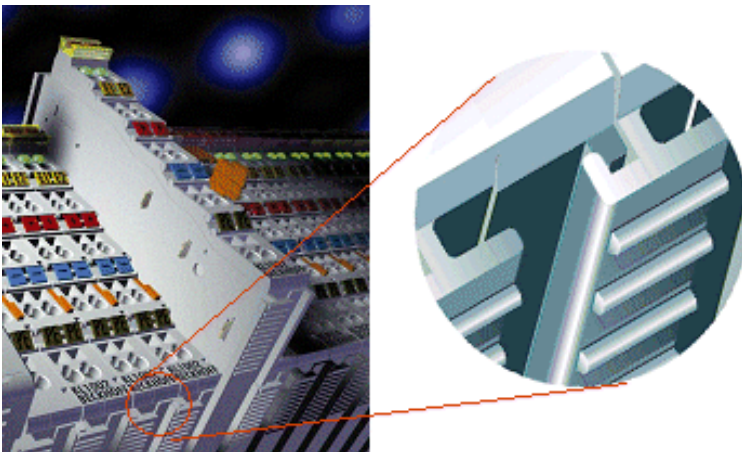

Fig. 5: Groove and tongue of the housings
*) A figure of 40 m at 1 Mbit/s is often found in the CAN literature. This does not, however, apply to networks with optically isolated CAN controllers. The worst case calculation for opto-couplers yields a figure 5 m at 1 Mbit/s - in practice, however, 20 m can be reached without difficulty.